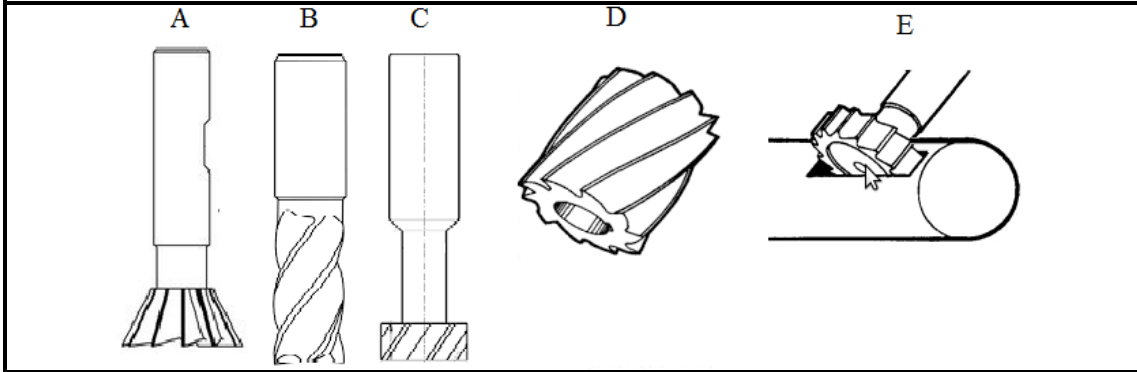

FIGURE 4
4.2 FIGURE 4 shows different milling cutters.